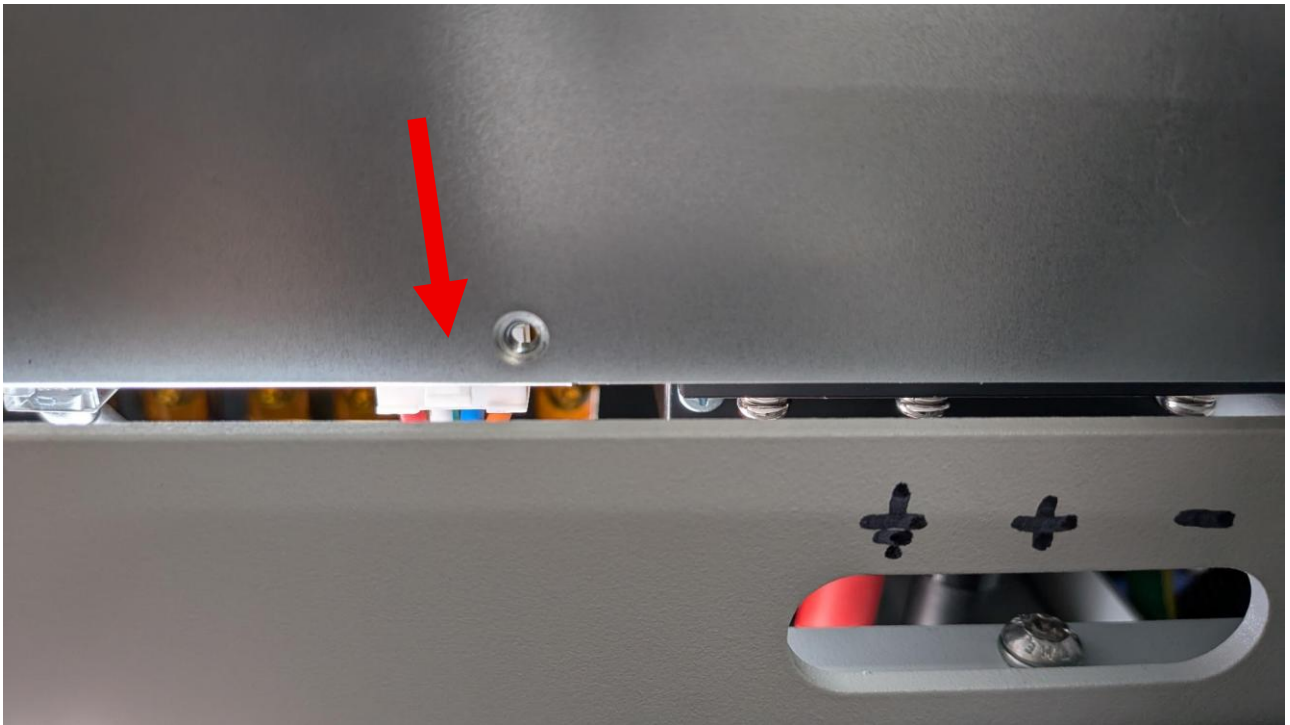

Figure 18
15. Just to the left of the output power terminal is a white Molex connector, which is visible through the slit shown in Figure 18.